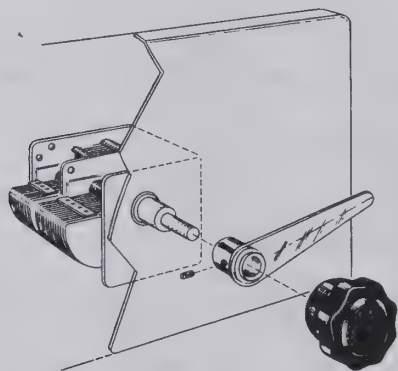

Figure 9
- (✓) See Figure 9 for details of mounting the tuning controls. The pointer should be adjusted to cover the entire scale when the condenser is rotated.